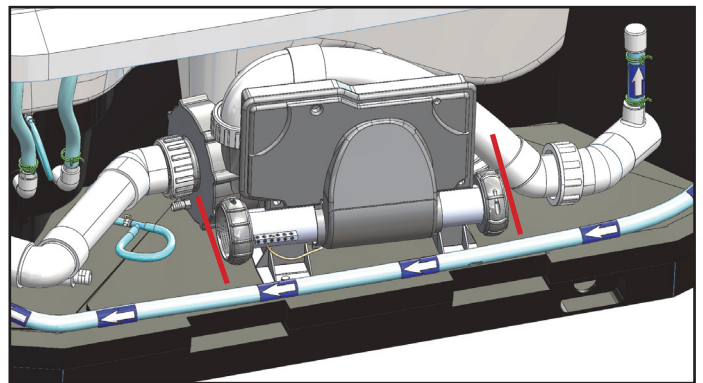

Figure 7.1
1. Re-insert control box/heater back into the equipment compartment (Figure 7.1).
2. Align control box /heater as seen in (Figure 7.1). Make sure control box/heater will not interfere with equipment compartment door.